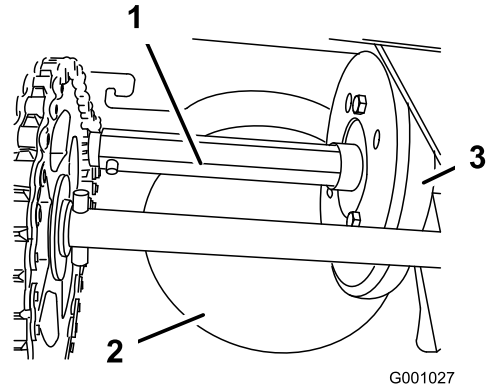

Figure 41
Lightly lubricate the hex shaft yearly with automotive engine oil (Figure 41).
**Important:** Do not get oil on the rubber wheel or the aluminum friction drive plate because the traction drive will slip (Figure 41).